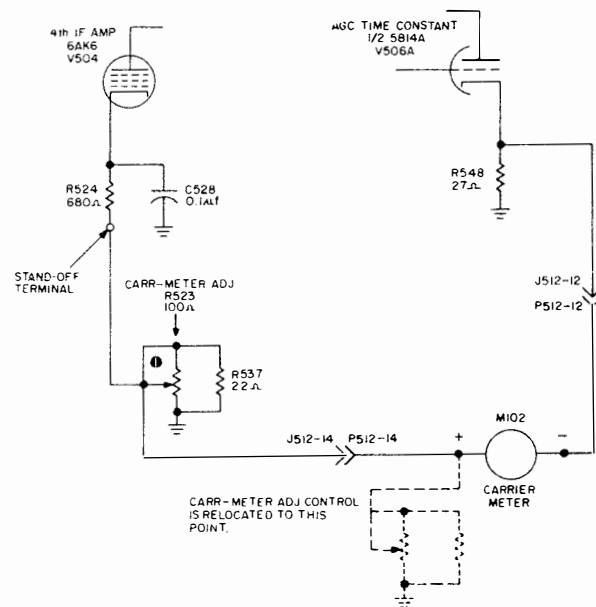

Figure 1. Schematic Carrier Meter Adjust
10. The other lead should connect directly to a standoff terminal and a 680 ohm resistor (R-524) which goes to pin 7 of XV504, (see figure 1). Unsolder this lead from the standoff terminal and pull it out of the wiring harness. Retain the lead.